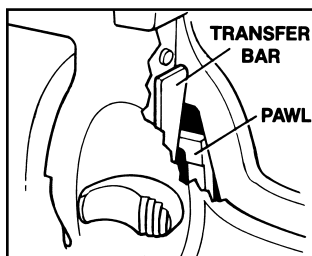

Figure 9
2. Hook front of trigger guard into recess in frame (See Figure 7, p. 17). Align pawl in its recess in the frame and be sure transfer bar is in correct position in rear of firing pin. Swing trigger guard upward into position in frame then allow latch to re-engage. If solid resistance is felt when swinging trigger guard into frame, or if trigger guard will not lock into position re-check position of pawl and transfer bar (See Figure 9).